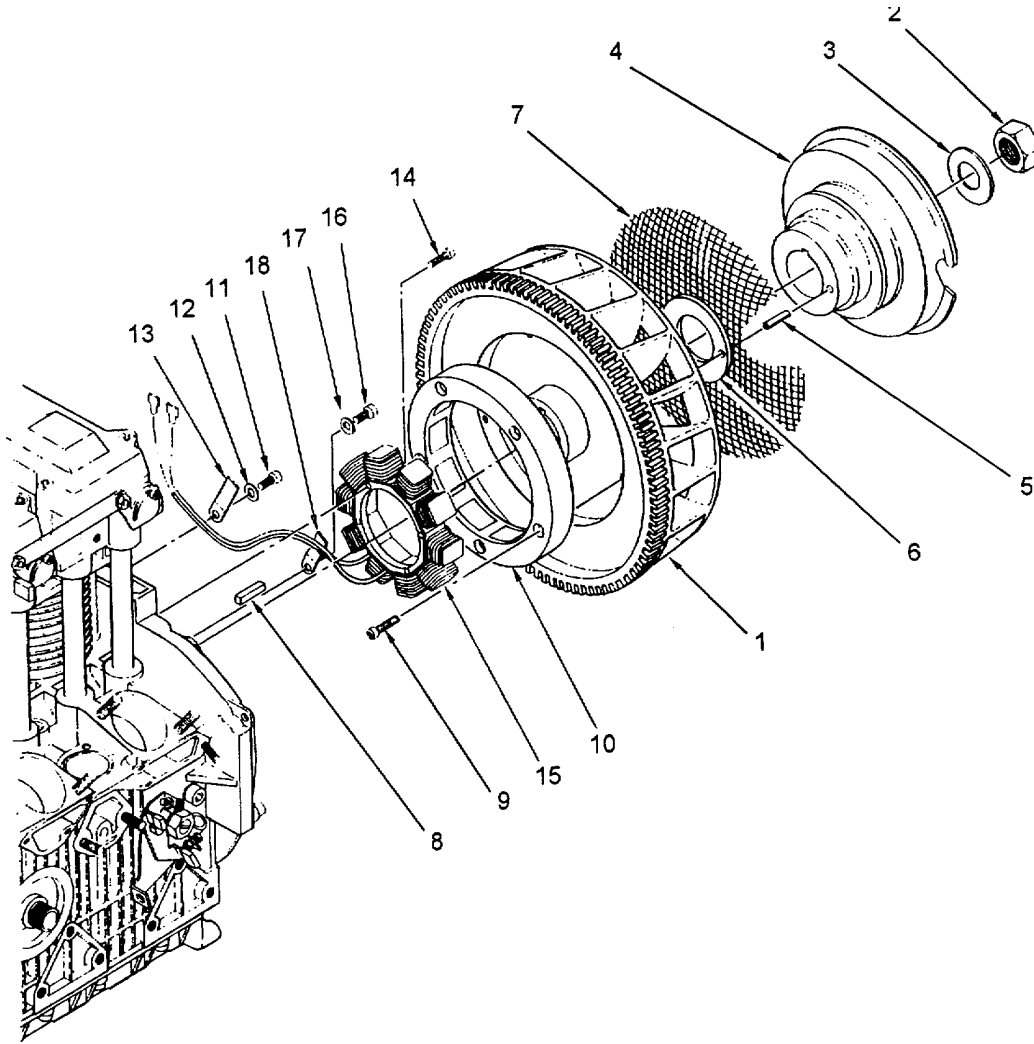

Figure 6-4. Flywheel and Alternator Removal
6.3.3 Remove Flywheel/Alternator Rotor and Stator. (Refer to figure 6-4.)